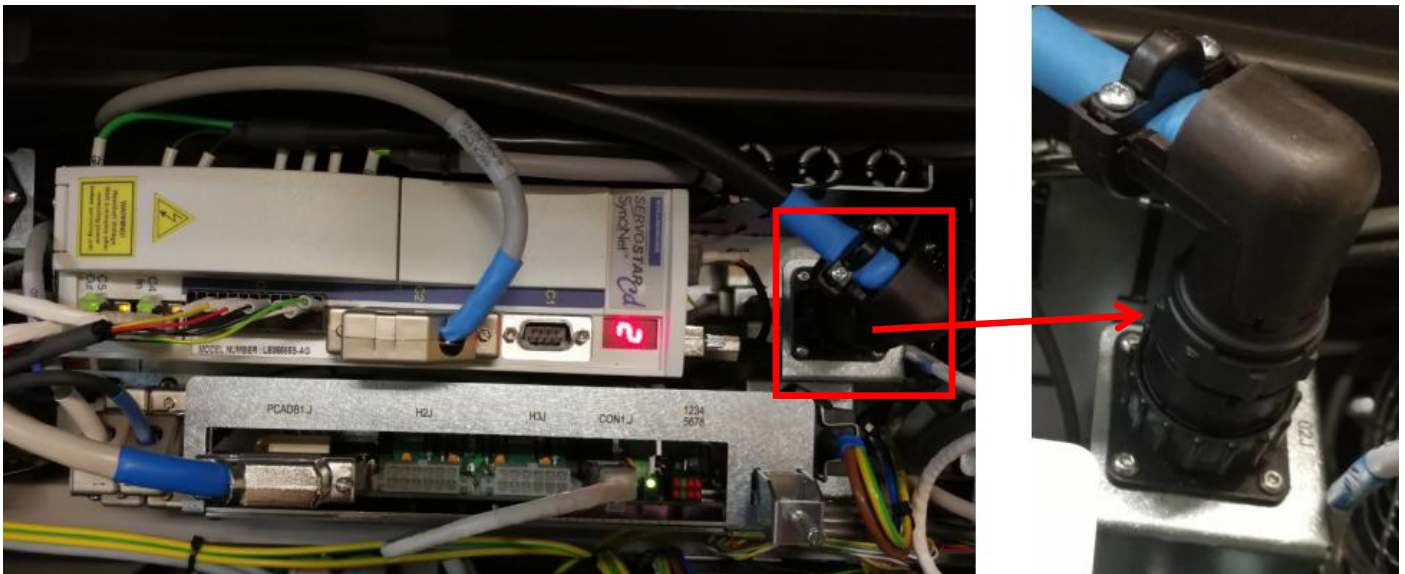

Figure 3
6. Disconnect X-Axis Motor Power Cable as Figure 3.